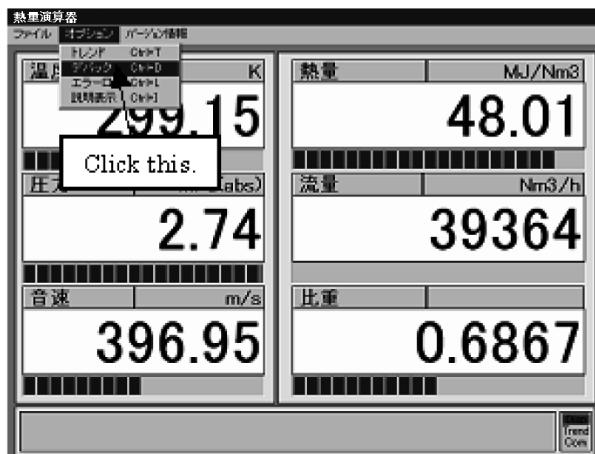

Fig. 9.6.1
1. On the RUN Mode Display screen, click [オプション] [Option]. The menu as shown in Fig. 9.6.1 appears. Here, click [デバック] [Debug].